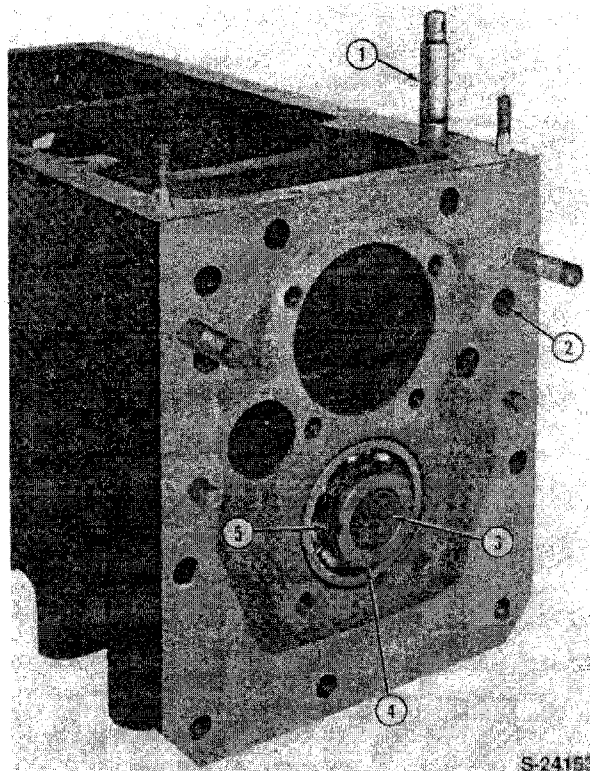

Figure 146
1. Remove the rubber plug (2), from the access bore at the front of the case, Figure 146.
1. Straighten the lock washer (5), Figure 146, and remove the locknut (4).